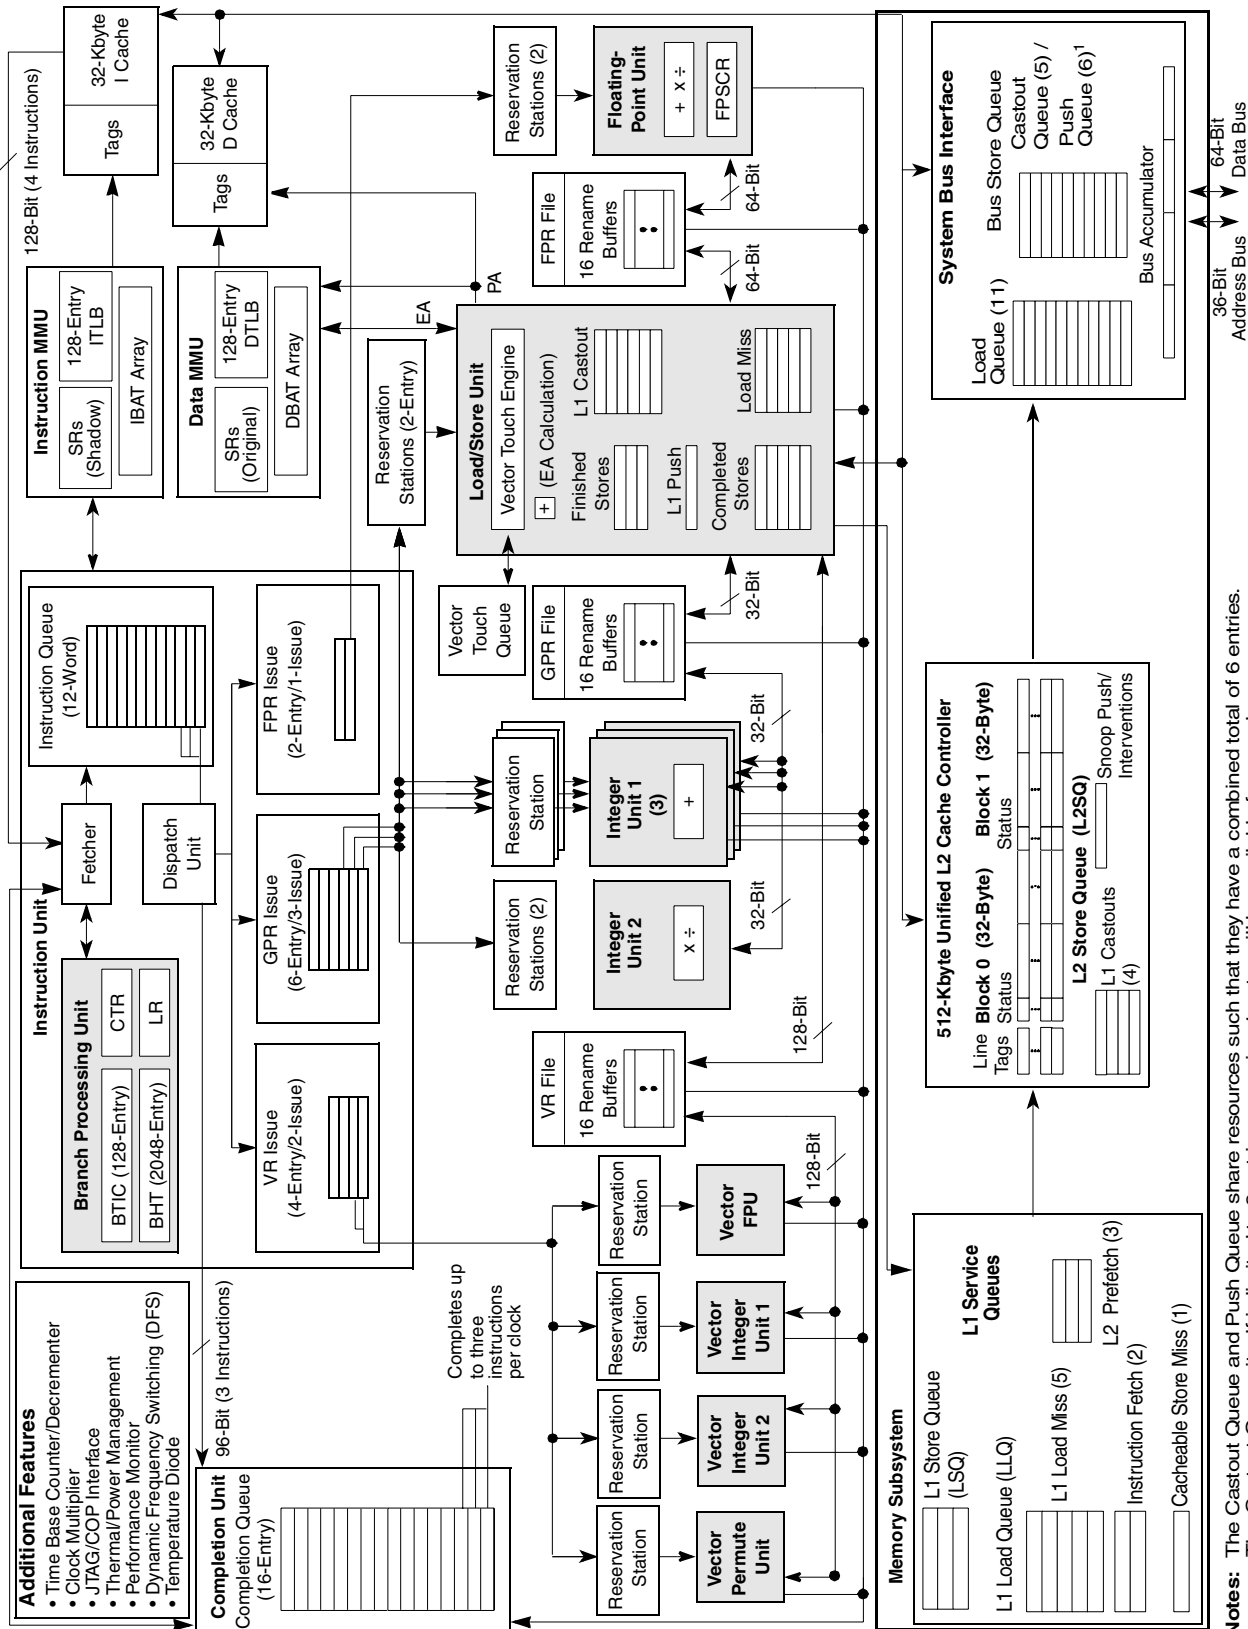

Figure 1. MPC7447A Block Diagram
**Figure 1** shows a block diagram of the MPC7447A. The core is a high-performance superscalar design supporting a double-precision floating-point unit and a SIMD multimedia unit. The memory storage subsystem supports the MPX bus protocol and a subset of the 60x bus protocol to main memory and other system resources.